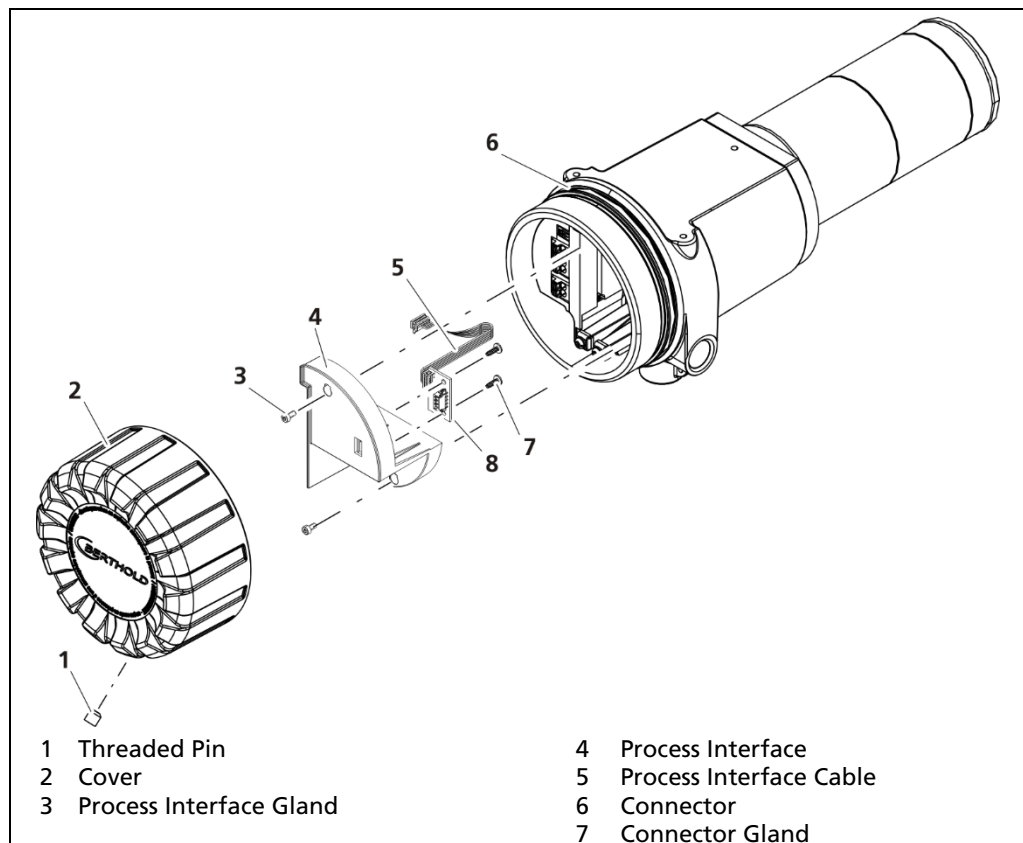

Fig. 15 Replace process interface
1. Open the electronics cooling cover (Fig. 15, Pos. 2) by pressing the retaining clip (Fig. 15, Pos. 3) on the cover together.
- ▶ The cover (Fig. 15, Pos. 2) can now be opened.
2. Slide the electronics cooling unit (Fig. 15, Pos. 2) over the detector tube (Fig. 15, Pos. 4) towards the connection area.
3. Attach the electronics cooling unit with the provided screws (Fig. 15, Pos. 5) to the detector tube (Fig. 15, Pos. 2).
4. Carefully close the electronics cooling cover (Fig. 15, Pos. 2) until the retaining clips (Fig. 15, Pos. 3) snap into place.
5. Slide the scintillator cooling unit (Fig. 15, Pos. 6) over the detector tube (Fig. 15, Pos. 2).
6. Attach the scintillator cooling unit with the provided screws (Fig. 15, Pos. 7) to the detector tube (Fig. 15, Pos. 2).
7. Connect the cooling hose (Fig. 15, Pos. 8) to the connection of the scintillator cooling (Fig. 15, Pos. 9).